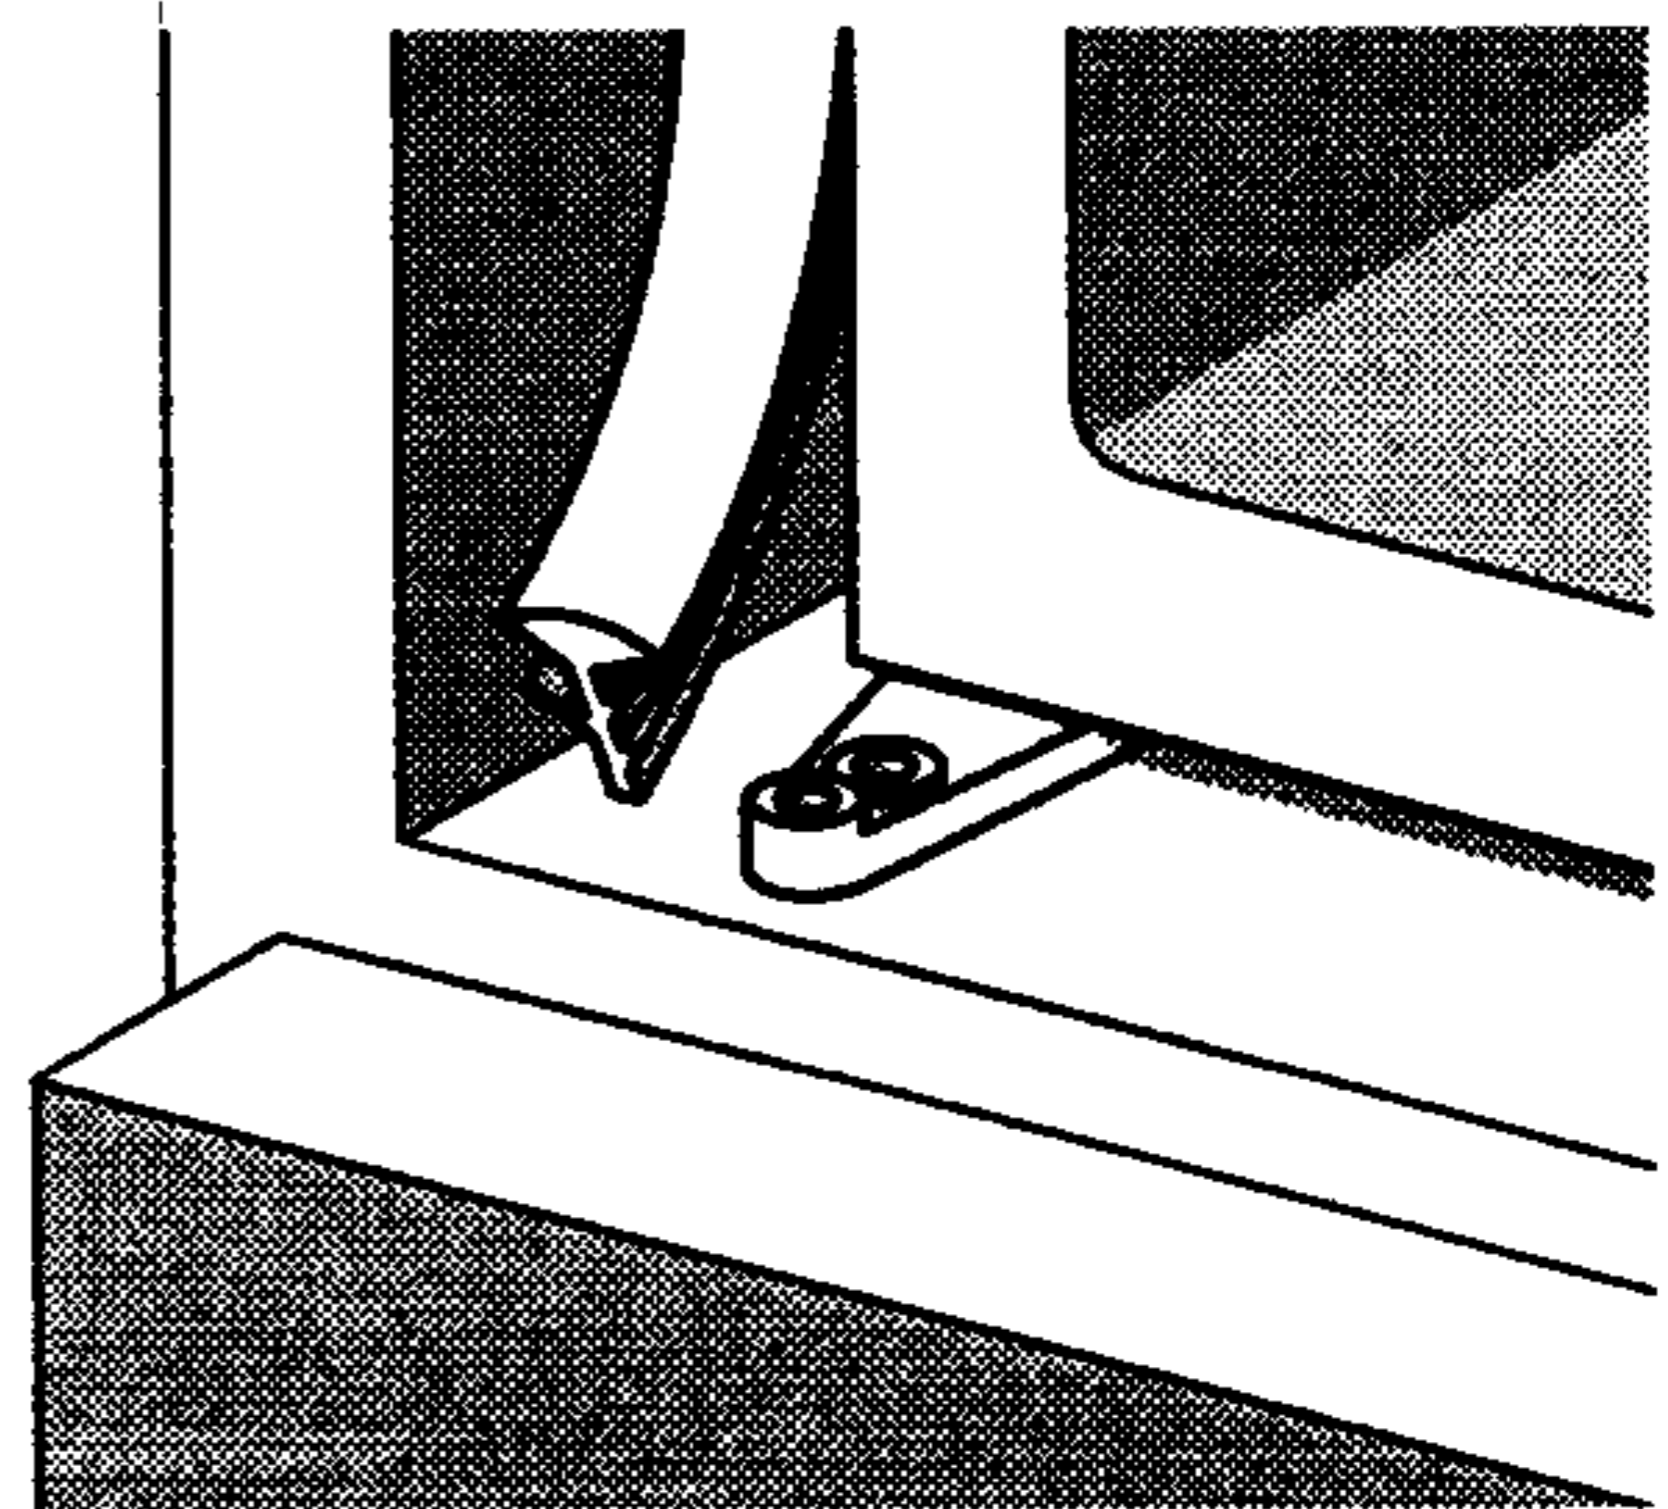

Fig. 6
- Seal the gap on the opposite side of the hinge with the enclosed strip (Fig. 6).